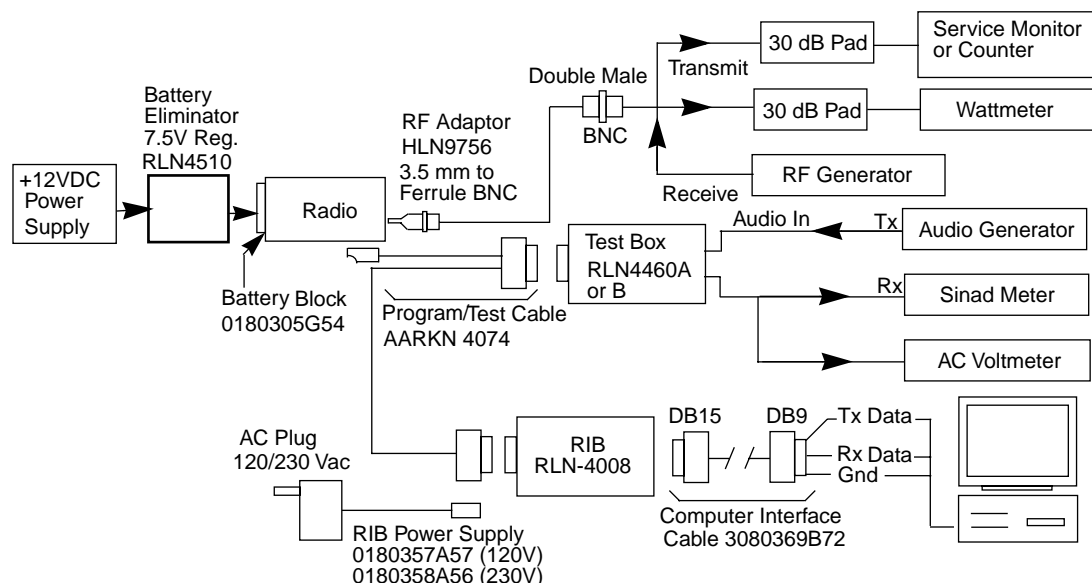

Figure 5-1. Radio Tuning Test Equipment Setup
The receiver and transmitter performance tests are contained in Tables 4-5 and 4-6 respectively. Refer to Chapter 5, Figure 5-1, for test equipment setup. Note that all test measurements are taken at 25°C.
A personal computer (PC), Windows 95/98, and a global tuner program are required to tune the radio. To perform the tuning procedures, the radio must be connected to the PC, radio interface box (RIB), and test equipment shown in Figure 5-1.
The supply voltage is connected to the radio using a Motorola battery eliminator, P/N AA0180305G54. The initial test equipment (Figure 5-1) control settings are listed in Table 5-2.